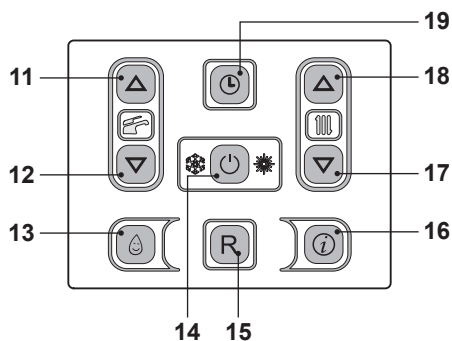

Fig. 2.7
Enter "programming mode" by holding down key 19 for 5 seconds (Fig. 2.7) until the display indicates the  symbol.
Use keys 17 (decrease) and 18 (increase) Fig. 2.7 to set the time, day and date values, using keys 11 and 12 to move from one parameter to the next.
- Press the key 14 for 2 seconds until both  and  symbols appear on the display Fig. 2.7.